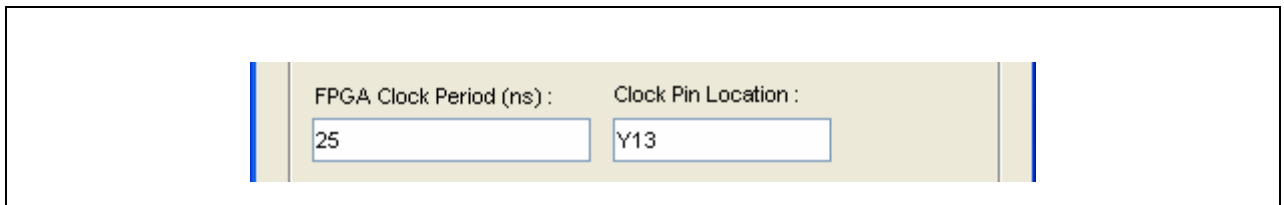

Figure 140: Clock Pin Location
- Clock Pin: Double click on the System Generator block, set the clock period to 25ns and the clock pin location to Y13 as shown in **Figure 140 on page 213**.